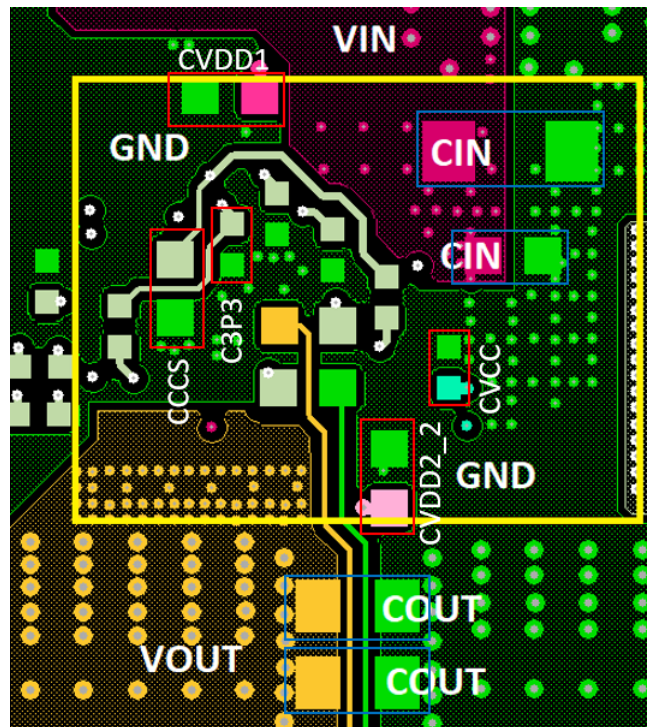

Figure 42. Layout Example - Bottom Layer
- Place the VDD1, VDD2_2, CVCC, CCCS, C3P3 bypass capacitors on the bottom side of the board, underneath the module close to their respective pins for optimum decoupling. A layout example is shown in Figure 42.